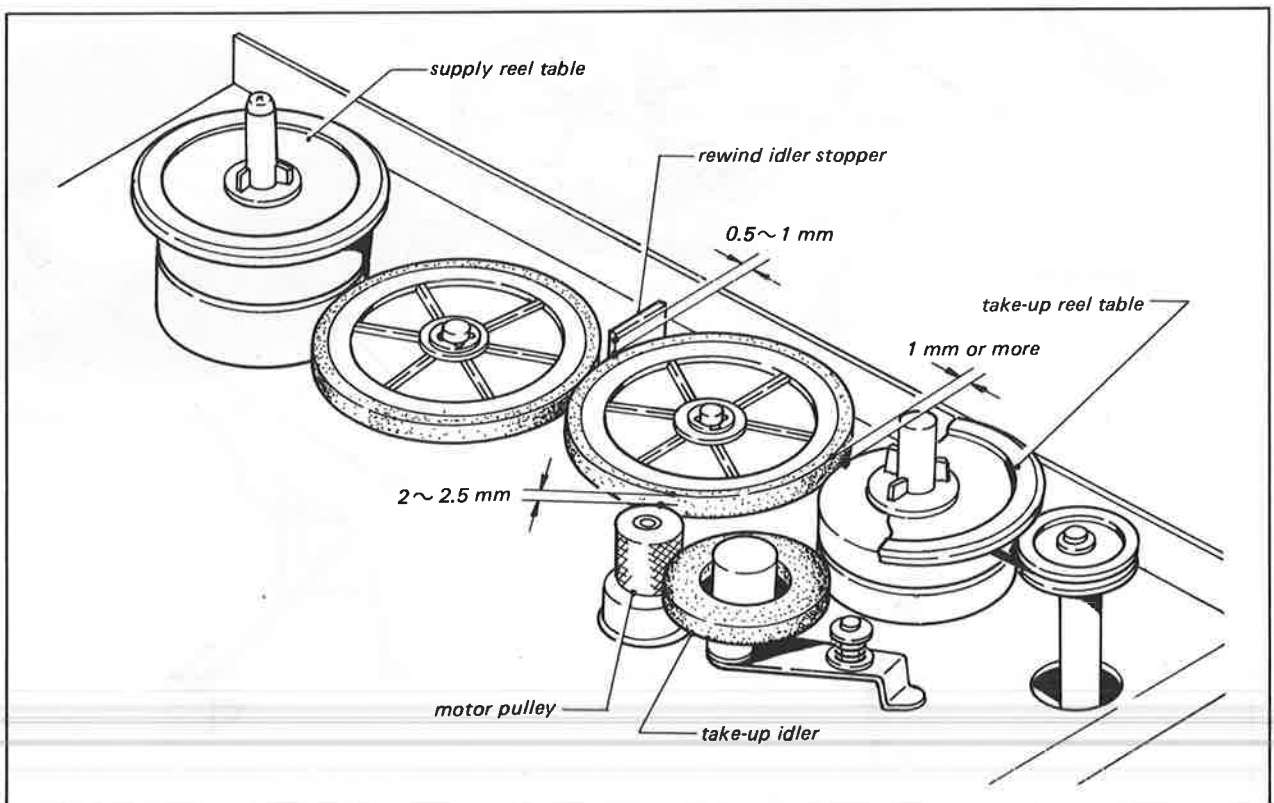

Fig. 4-13. Rewind idler replacement
3. Set the Function Lever to STOP. Check that the Right Rewind Idler is clear of the Idler Stopper by 0.5 to 1 mm. See Fig. 4-13. If this condition does not exist, bend the Idler Stopper with a pair of pliers.
5. Set the Function Lever to STOP. Check that the Supply Reel Table, Left Rewind Idler, and Right Rewind Idler are contacting securely. Make sure at this time that the Right Rewind Idler is disengaged from the Take-Up Reel Table by more than 1 mm. See Fig. 4-13. To replace the Rewind Idlers proceed as follows.